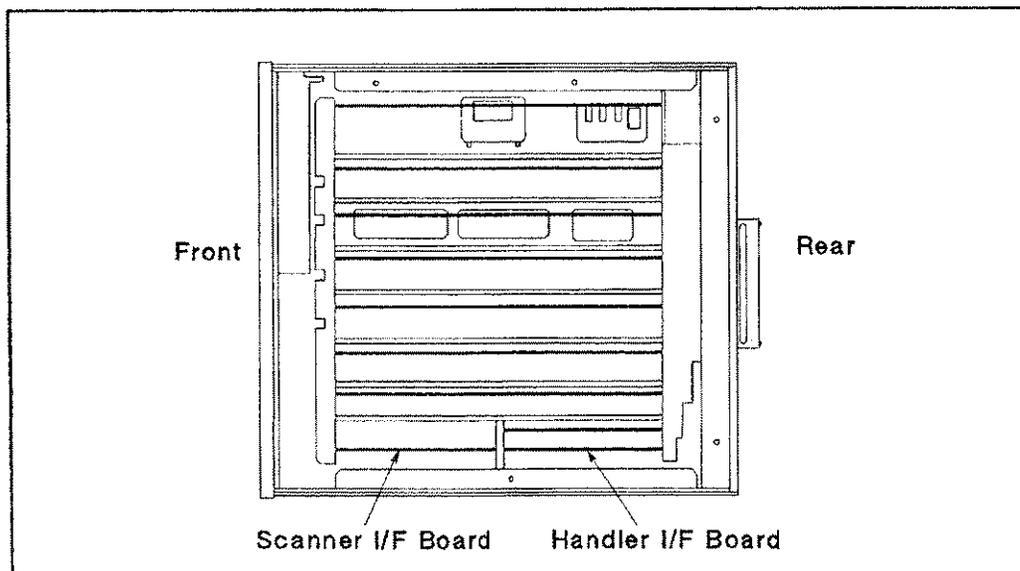

Figure 6-9. Interface Board Location
6. Disconnect the flat cable connected to the handler interface board. The handler interface board is the one with the **BLACK** and **ORANGE** extractors ( See Figure 6-9 ).
2. Disconnect the flat cable connected to the handler interface board. The handler interface board is the one with the **BROWN** and **ORANGE** extractors ( See Figure 6-9 ).
2. Disconnect the flat cable connected to the scanner interface board. The scanner interface board is the one with the **BLACK** and **YELLOW** extractors ( See Figure 6-9 ).